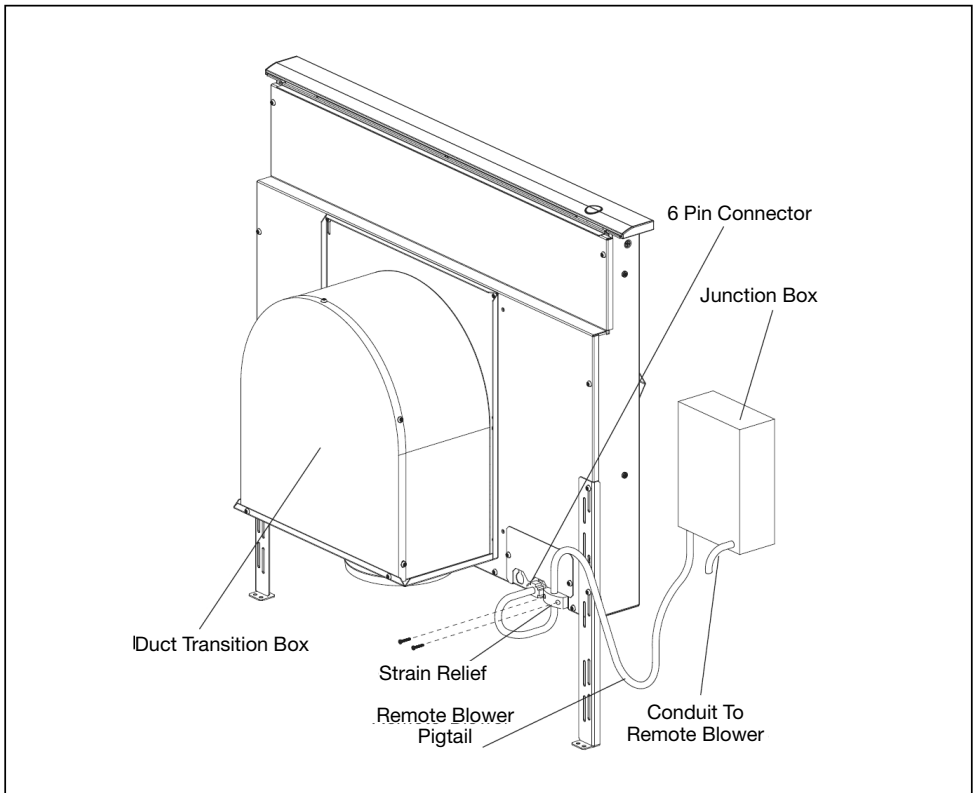

Fig. 10 – Remote Blower
Remote or Inline Blower (see Figures 10 and 11 for further detail):
- ☐ A. Remove junction box cover and connect conduit with 5 wires from remote blower. Hook up wires per Wiring.Fig. 10. Replace junction box cover.